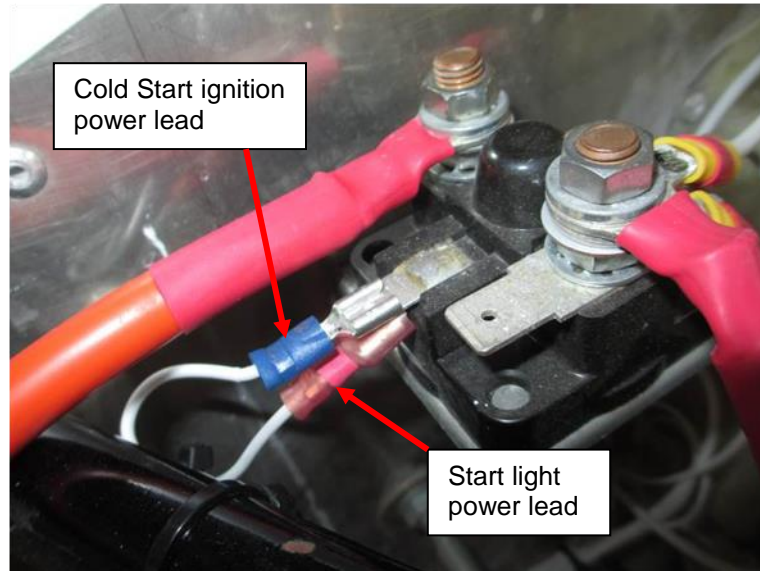

Figure 5 - Power lead wiring
- e) Connect the power lead via the Solenoid to the starter button wire as shown in Figure 5 below. This wire provides power to the cold start ignition system and must be connected in such a way that it receives 12V DC *while the starter button is depressed only*. Accordingly, this lead must be connected to the starter solenoid: doubled with the starter button lead to share the same connection. On some